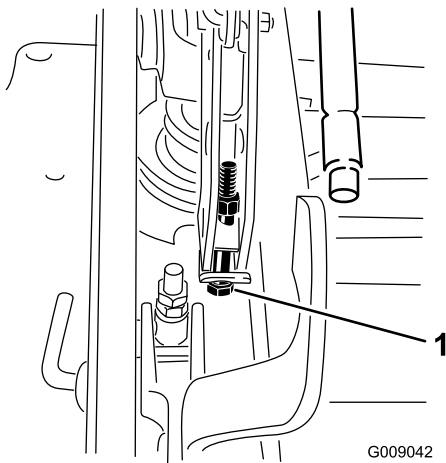

**Figure 94**
- To adjust the single point system, loosen the two bolts at the bottom of the height of cut plate. Refer to Figure 94.
13. Tighten the two bolts at the bottom of the height of cut plate (Figure 94). Torque to 37-45 N-m (27-33 ft-lb).